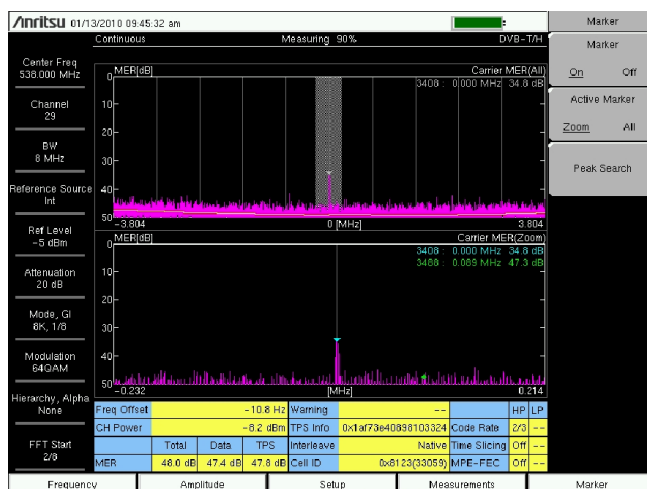

Figure 13c. Typical carrier leakage MER display.
- Figure 13c depicts a carrier leakage problem caused by, for example, dc signal components in the I/Q modulator.